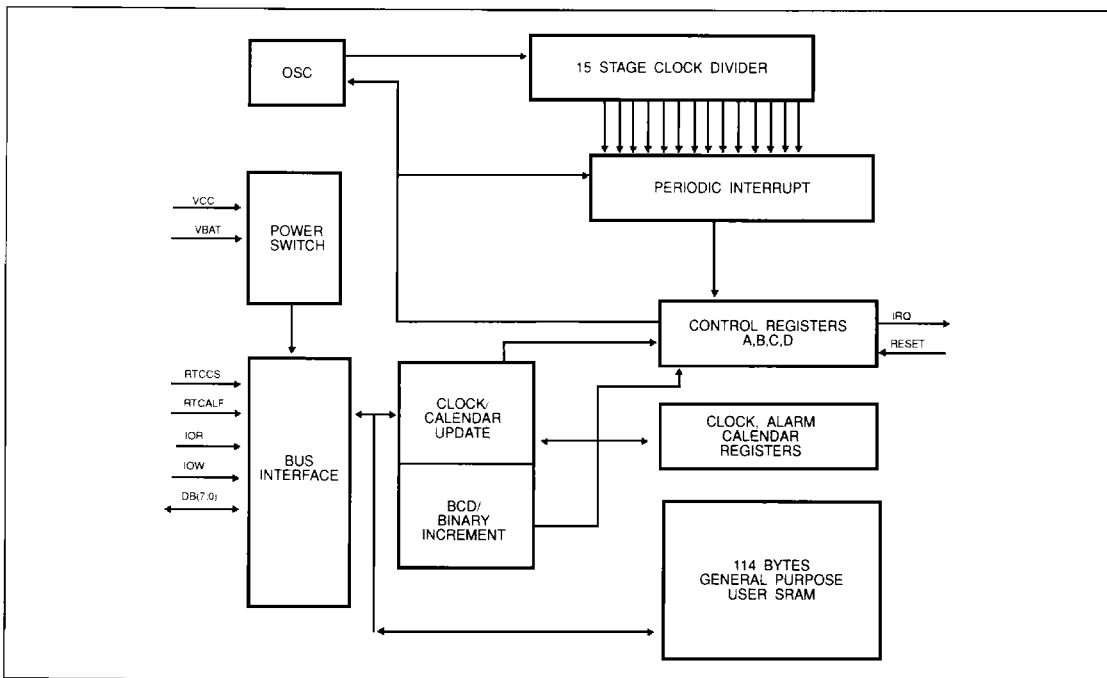

FIGURE 2-3. RTC BLOCK DIAGRAM
The Real Time Clock (RTC) component of the 76C20, in conjunction with the 128 byte-register file, provides calendar (day-of-week, day-of-month, month, and year) and clock (hours, minutes, and seconds) information, along with clocked alarms and a periodic interrupt. Referring to Figure 2-3, ten SRAM data registers contain all the clock/time/alarm information with the RTC crystal-controlled oscillator and frequency divider providing the appropriate clock "ticks" that keep them current. Control and status information for the RTC is contained in Registers A-D of the SRAM (detailed in Section 3). Remaining SRAM registers (114) are user-available.